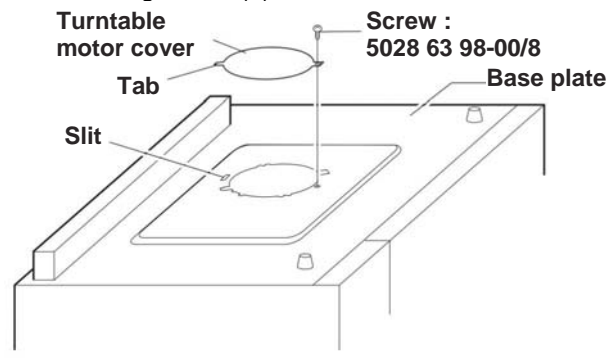

Figure C-1(b). Turntable motor cover re-install
5. Re-install the turntable motor cover to the base plate with the screw (code 5028 63 98-00/8) as shown in Figure C-1(b).